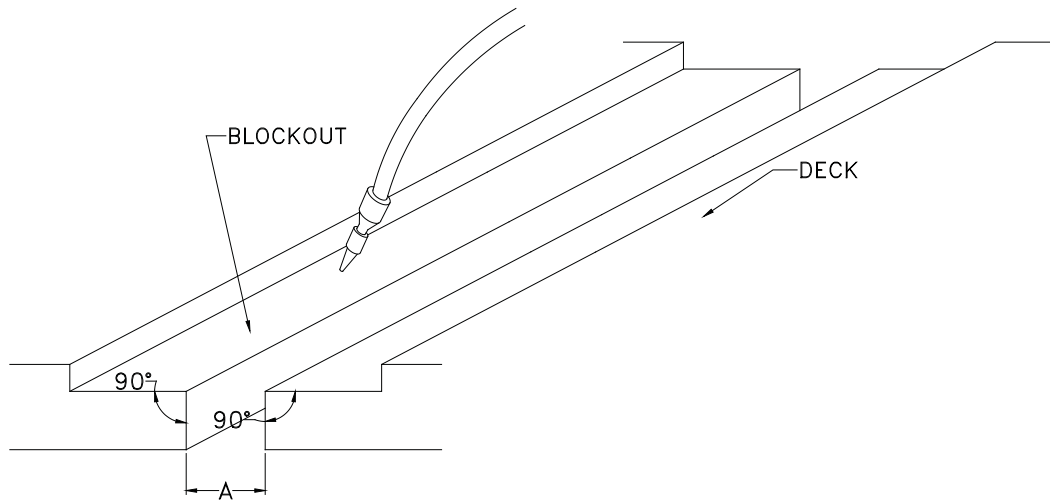

Figure 3
- H. The expansion joint blockout and opening should be sandblasted to remove laitance, loosely bonded material and any other contaminants, which may inhibit bonding of the system to the concrete (see Figure 3). Should sandblasting not be feasible, the surfaces must be ground with a coarse wheel disc grinder to produce an abraded surface. Care must be taken not to polish the concrete surface, as this can lessen adhesion. After sandblasting, or abrading, blow out the area with an air compressor fitted with an oil trap; this will eliminate the possibility of recontamination from oil and moisture in the lines.